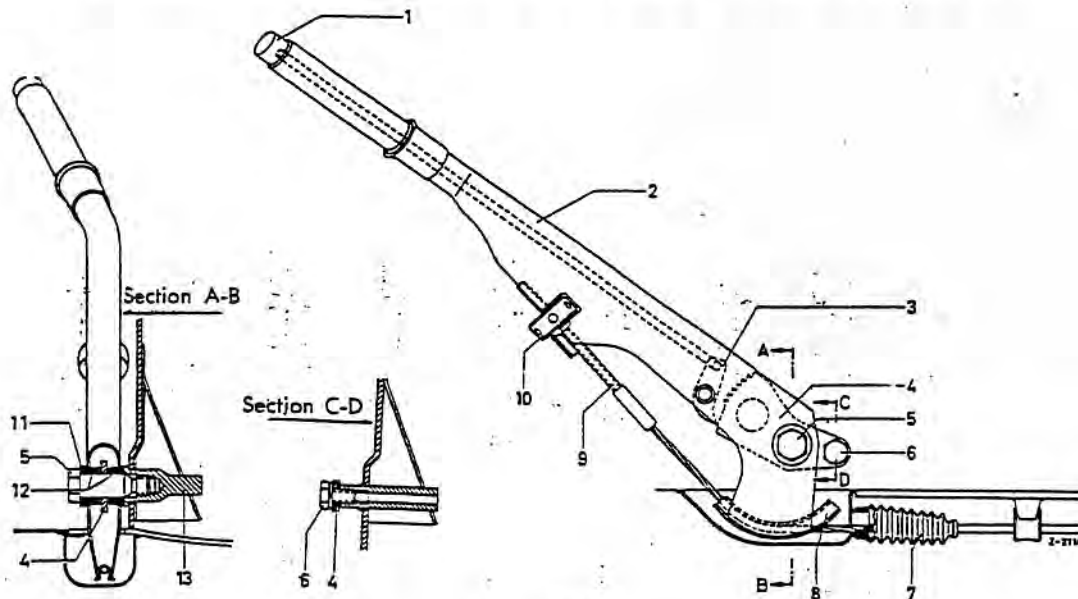

Fig. 42-18/6
correct length and that a new locking plate is used for the hexagon screw (2) (Fig. 42-18/5).